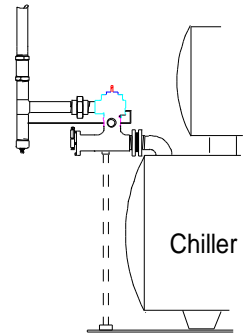
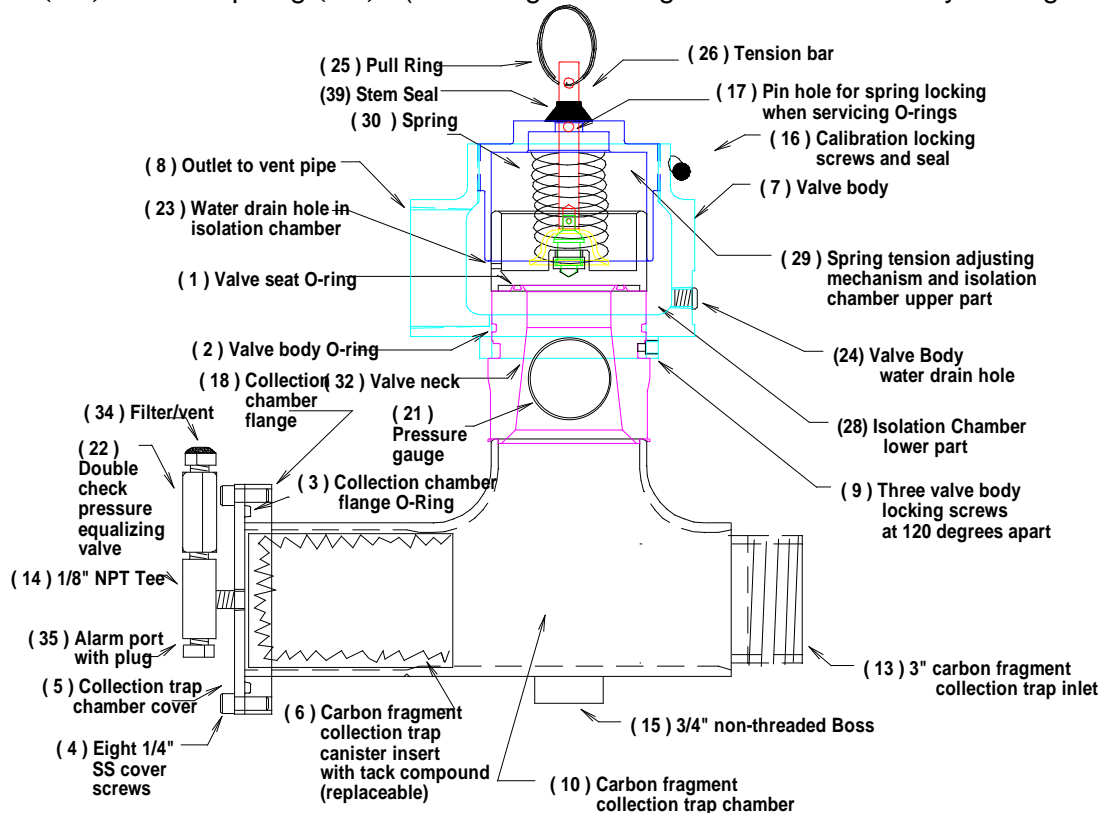

Figure 1.
Figure 3 - Cutaway View
| Figure 1. - Typical Installation | 8 |
See Figure 3 on Page 9 for location of parts on assembled unit.
NOTE: *IT IS NOT NECESSARY TO REMOVE THE CHILLER'S RUPTURE DISK TO INSTALL THE RuptureSeal™.* The valve's 3" carbon fragment collection trap inlet (13) (see Figure 3 on page 9 for location) should be screwed directly into the chiller's outer rupture disk flange (see Figure 1 on Page 8). If this is not possible, see Appendix "C" for other installation possibilities. If the installer wants to avoid putting stress on the rupture disk assembly, a straight, 3 inch ID flexible coupling can be used between the rupture disk flange and the RuptureSeal™.
1. Determine the best mounting arrangement for the **RuptureSeal™** in relation to the chiller's existing rupture disk, vent piping, and the recommended supplemental support. The best arrangement is one that places the **RuptureSeal™** as close as possible to the rupture disk. The valve body (7) can be rotated to orient the "outlet to vent pipe" (8) in any horizontal direction by loosening the five (5) valve body locking screws (9) (see illustration in first row of Appendix "C" on page 16). Once in position, be sure to re-tighten the five (5) valve body locking screws (9).
2. The **RuptureSeal™** "valve" should be mounted in the vertical position with the carbon fragment collection trap chamber (10) in the horizontal position (see **Figure 1 - Typical Installation**). The RS-3 can be mounted in other positions (except upside down), however, the valve is calibrated for the vertical position and it should be mounted in a position other than vertical only if absolutely necessary. **READ WARNING BELOW.**
Warning: YOU MUST READ Appendix "C" if mounting in positions other than as illustrated in Figure 1.
It is recommended that a supplemental mounting support be provided for the **RuptureSeal™** valve to relieve any stress it may put on the rupture disk assembly (see Figure 1 on page 8). A support mounting coupling (15) has been provided for this purpose. The coupling will accommodate a 3/4” non-threaded pipe. The installer shall determine the best way to provide the supplemental support.